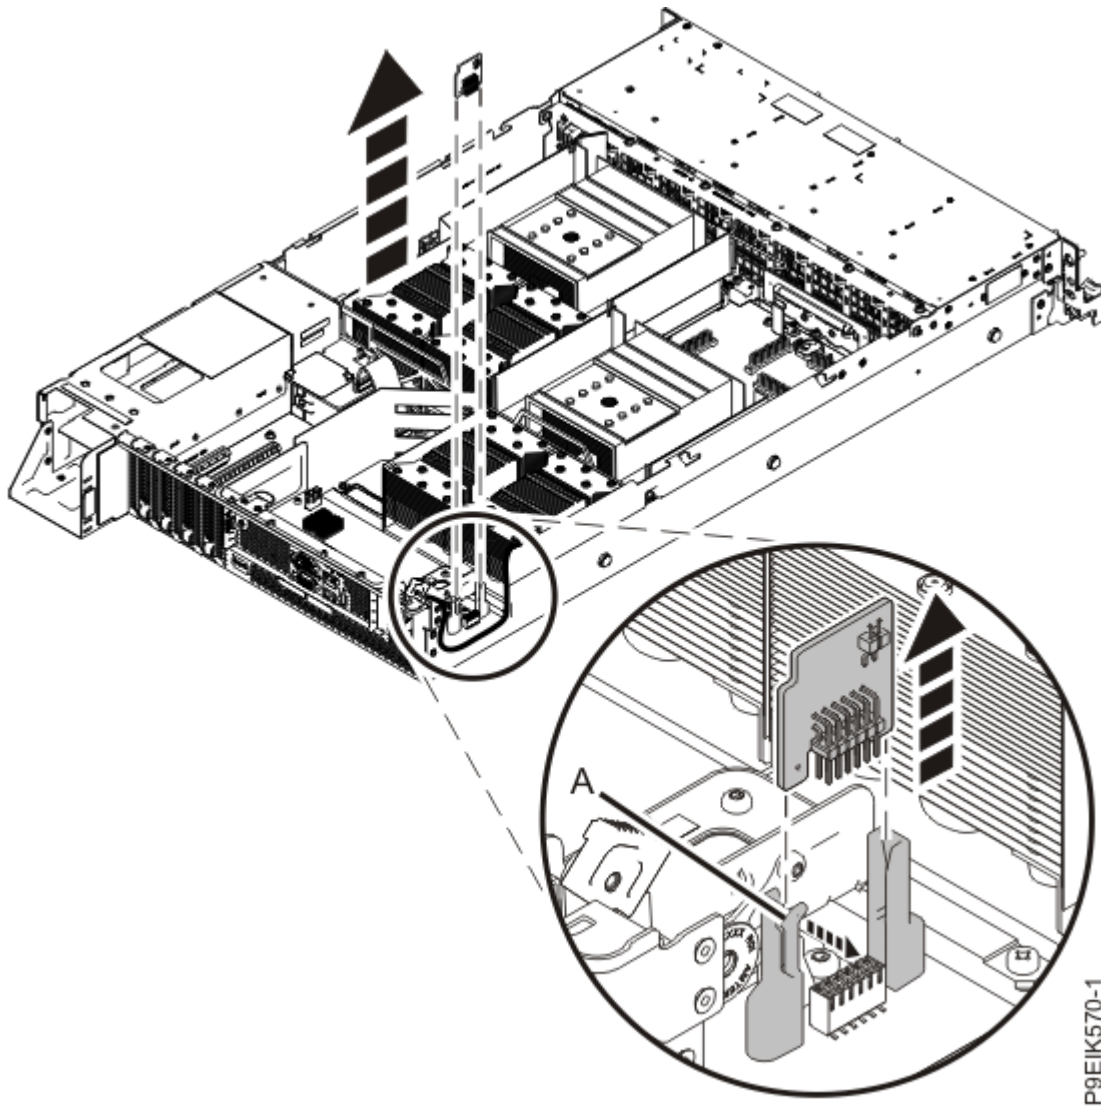

Figure 97. Removing the trusted platform module
2. Pull the lever **(A)** to release the trusted platform module (TPM), and lift the TPM straight up from the system backplane as shown in Figure 97 on page 117.